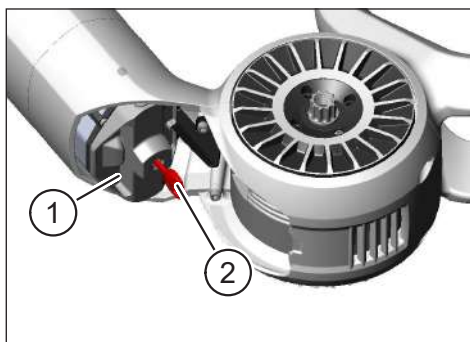

Fig. 17: Locking the battery lock
- ▶ Place the battery lock on the lower end of the battery (see No. 1 in Fig. 17).
- ▶ Turn the key (see No. 2 in Fig. 17) anticlockwise as far as it will go.